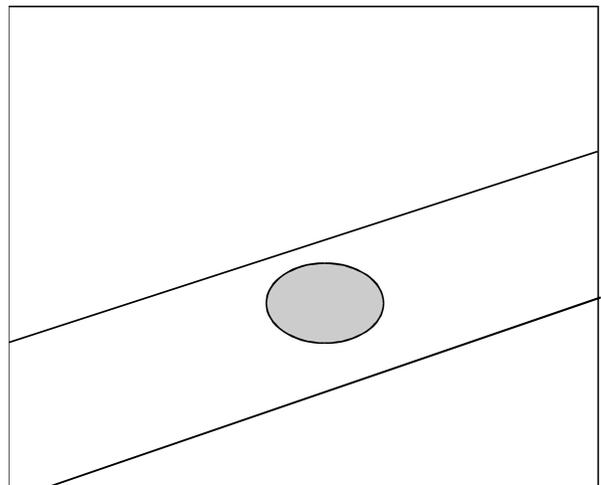

Figure 25 - Sleeving cut away from area of tapping
2. Remove the saddle and carefully cut away the sleeve in the area marked (Figure 25).